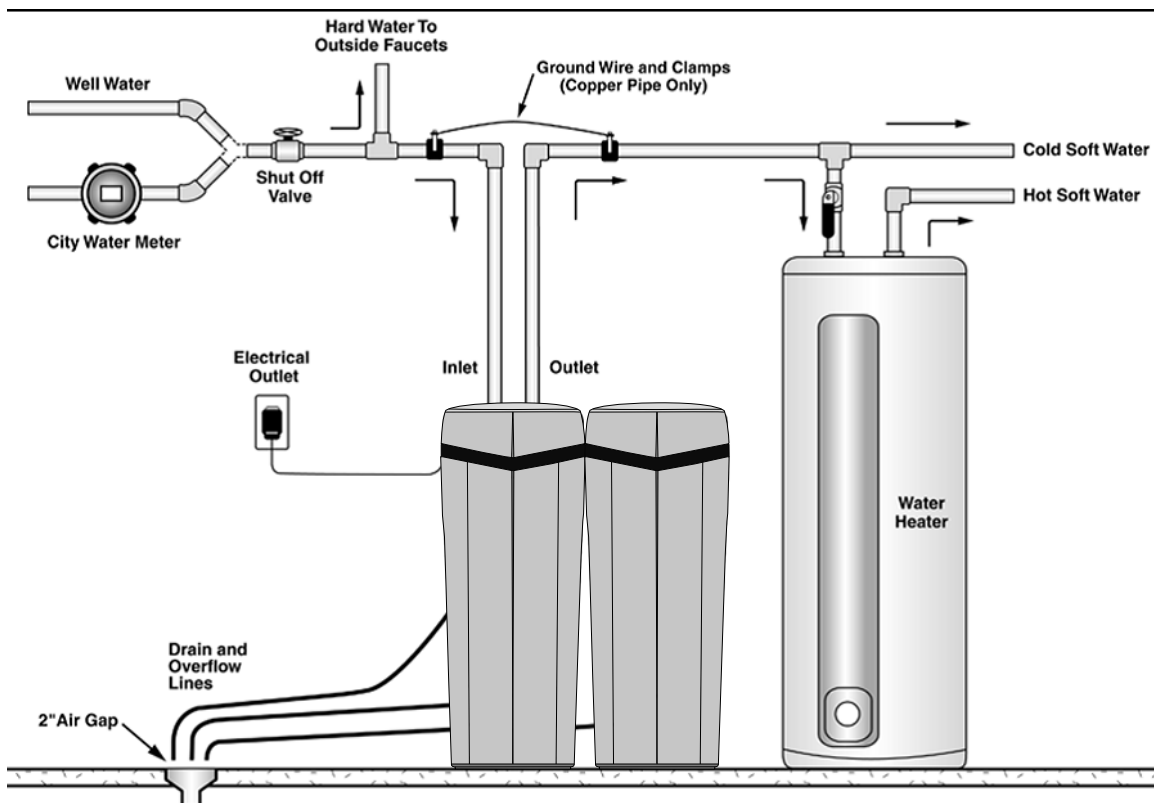

Figure 1: Appliance Placement
- F. Place the appliance in the desired location using Figure 1 as a guide. The diagram in Figure 1 applies to basement, slab, crawl space, and outside installations.